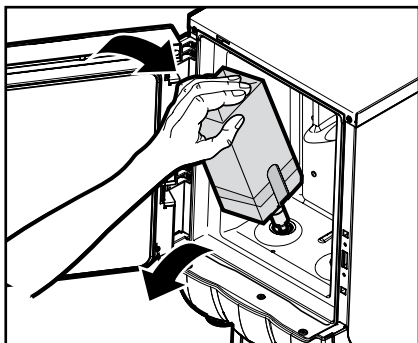

Fig. B4
6. Insert one of the product packs into the cooling compartment and take it out again (fig. B4).